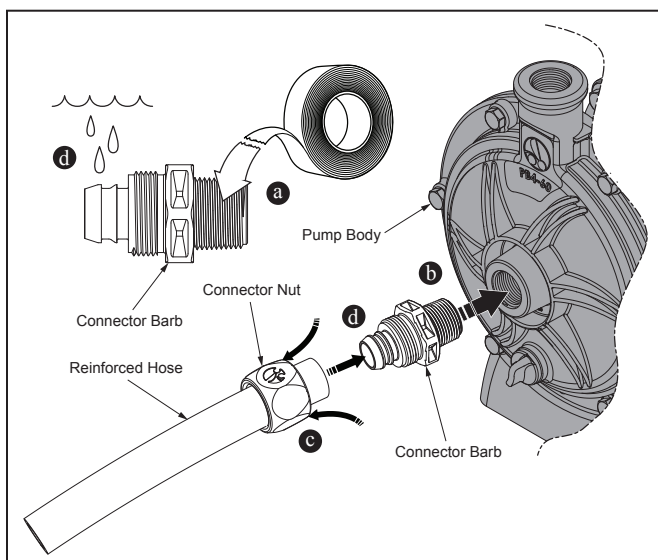

Figure 4. Prep and install Quick Connect barb and connector nut
- Mount the pump using two (2) concrete expansion anchors to ensure stability.
- Apply four (4) to six (6) wraps of Teflon® tape to the tapered thread of the connector barb. See Figure 4 (a).
- Thread and tighten the tapered thread of the connector barb into the pump port on the pump body. See Figure 4 (b).
- Slide connector nut onto the trimmed end of the hose with threaded end toward the cut end of the hose. See Figure 4 (c).
- Apply water to connector barb to help hose slide over barbs. Push trimmed edge of hose fully onto the connector barb. See Figure 4 (d).